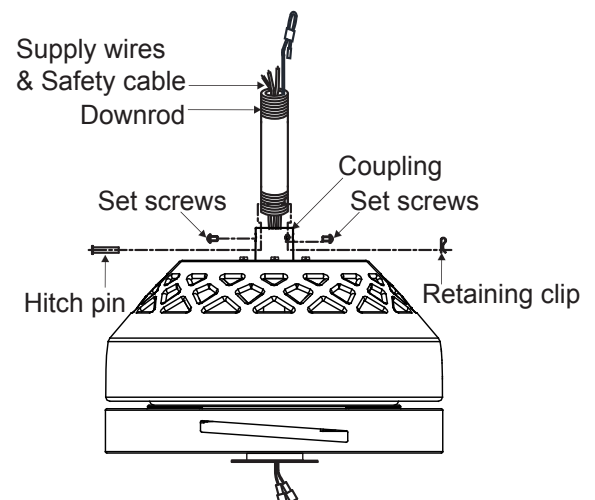

Fig. 8
**Step 6.** Loosen the two setscrews and remove the hitch pin and retaining clip from the coupling on top of the motor assembly. (Fig. 8)
**Step 7.** Carefully route the electrical supply wires and safety cable exiting the top of the fan motor assembly through the downrod. Thread the downrod into the coupling until the hitch pin holes are aligned. (Fig. 8)
Next, replace the hitch pin and retaining clip. Tighten both setscrews. (Fig. 8)